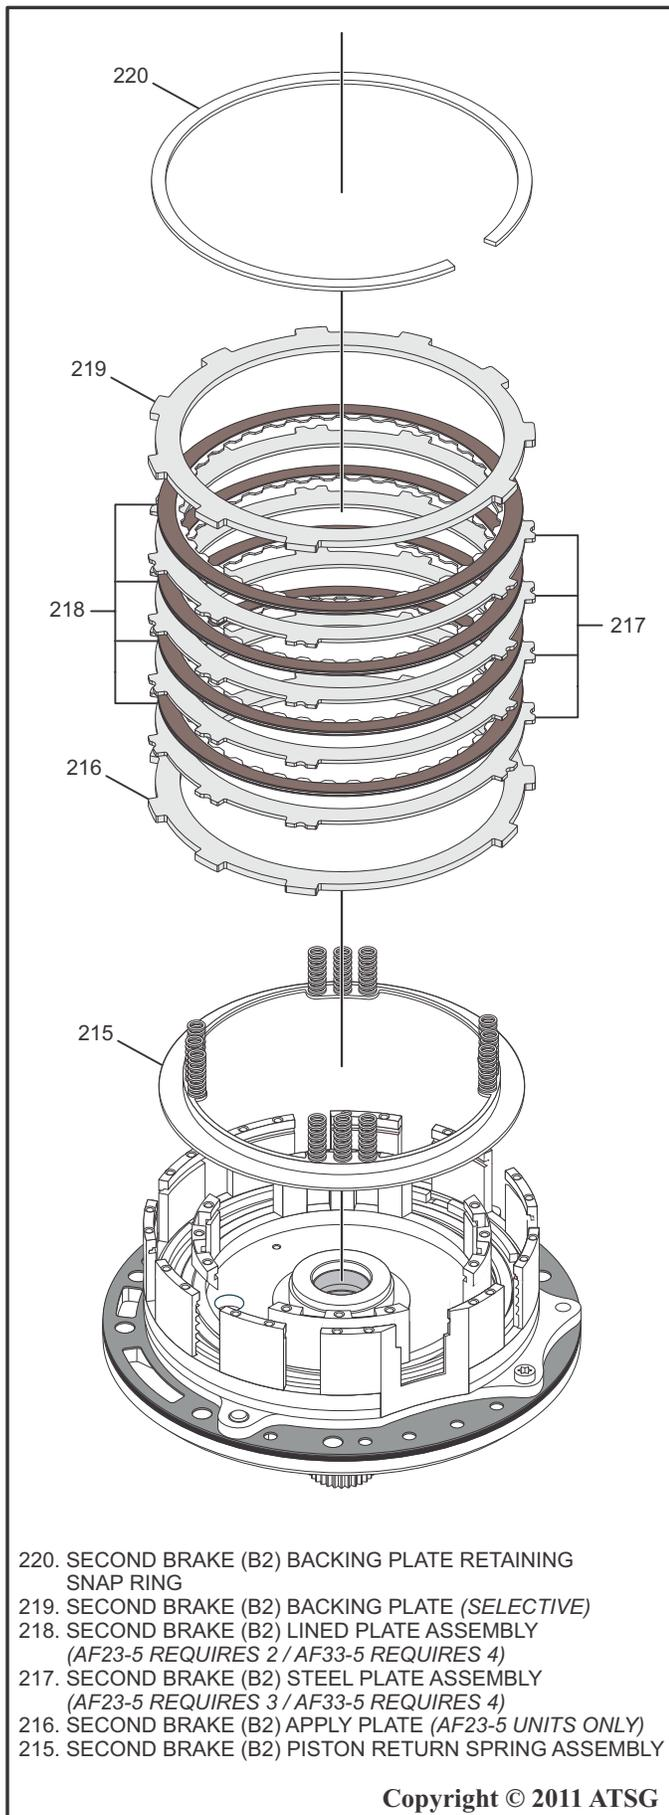

Figure 108
44. Install the Second Brake (B2) Piston Return Spring Assembly into the pump assembly with the springs facing upward as shown in Figure 108.
45. Install the Second Brake (B2) Apply Plate (*model dependant*) as shown in Figure 108.
46. Install the Second Brake (B2) Steel Plates and Lined Plates starting with a steel plate then alternating lined plates and steel plates, ending with a lined plate as shown in Figure 108.
47. Install the Second Brake (B2) Backing Plate (*Selective*) as shown in Figure 108.
48. Install the Second Brake (B2) Retaining Snap Ring as shown in Figure 108.